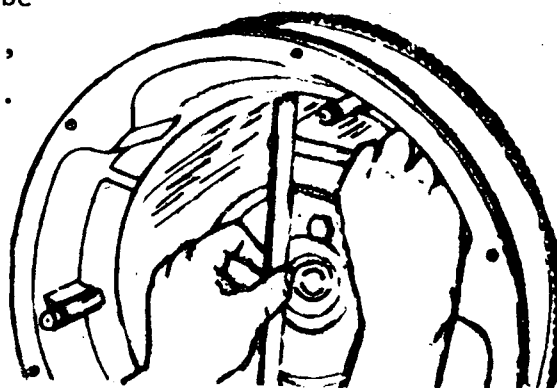

Fig. 4
- b) Check if the surface of the flywheel is flat (Fig. 4).